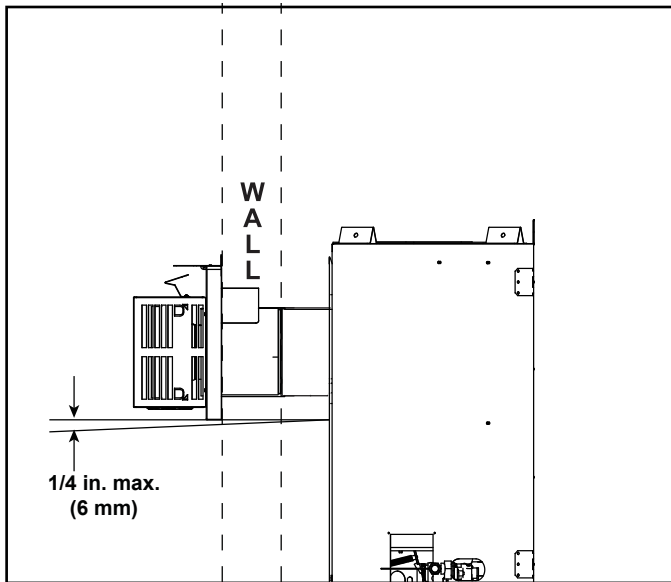
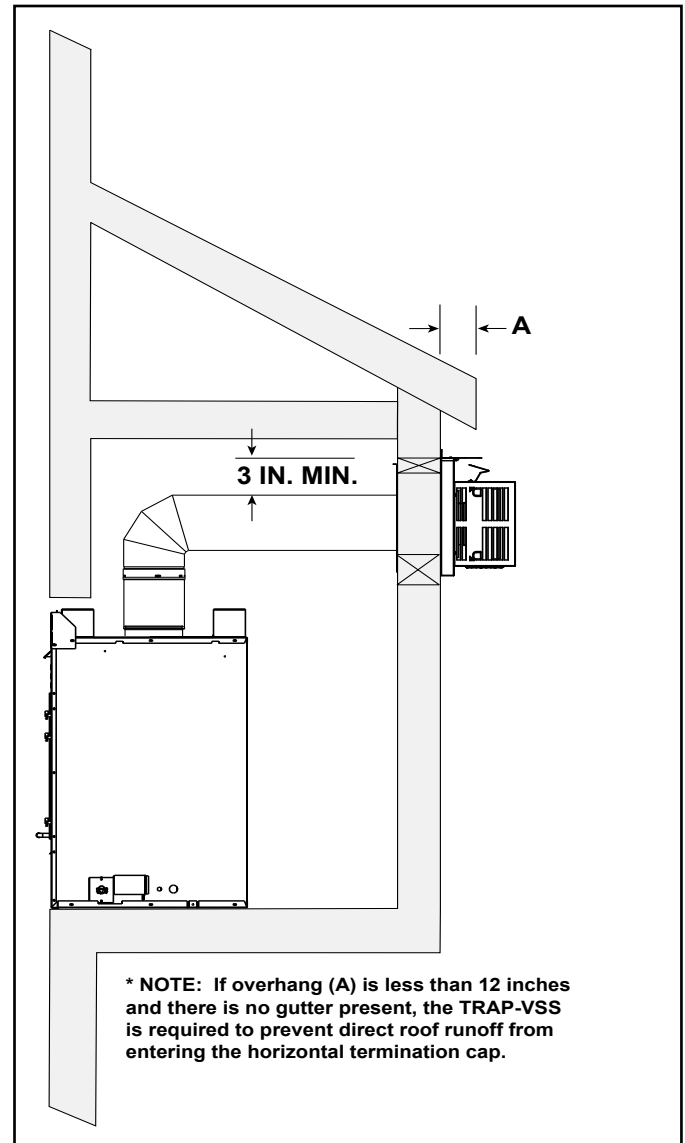

Figure 4.7 Water Infiltration Prevention
Figure 4.8 Exterior Chase - Water Infiltration Prevention
- When the horizontal termination cap is exposed to high precipitation, the cap should have a 1/4 inch downward slant to allow any moisture in cap to be released. See Figure 4.7. See Figure 4.8 for additional water infiltration prevention information.